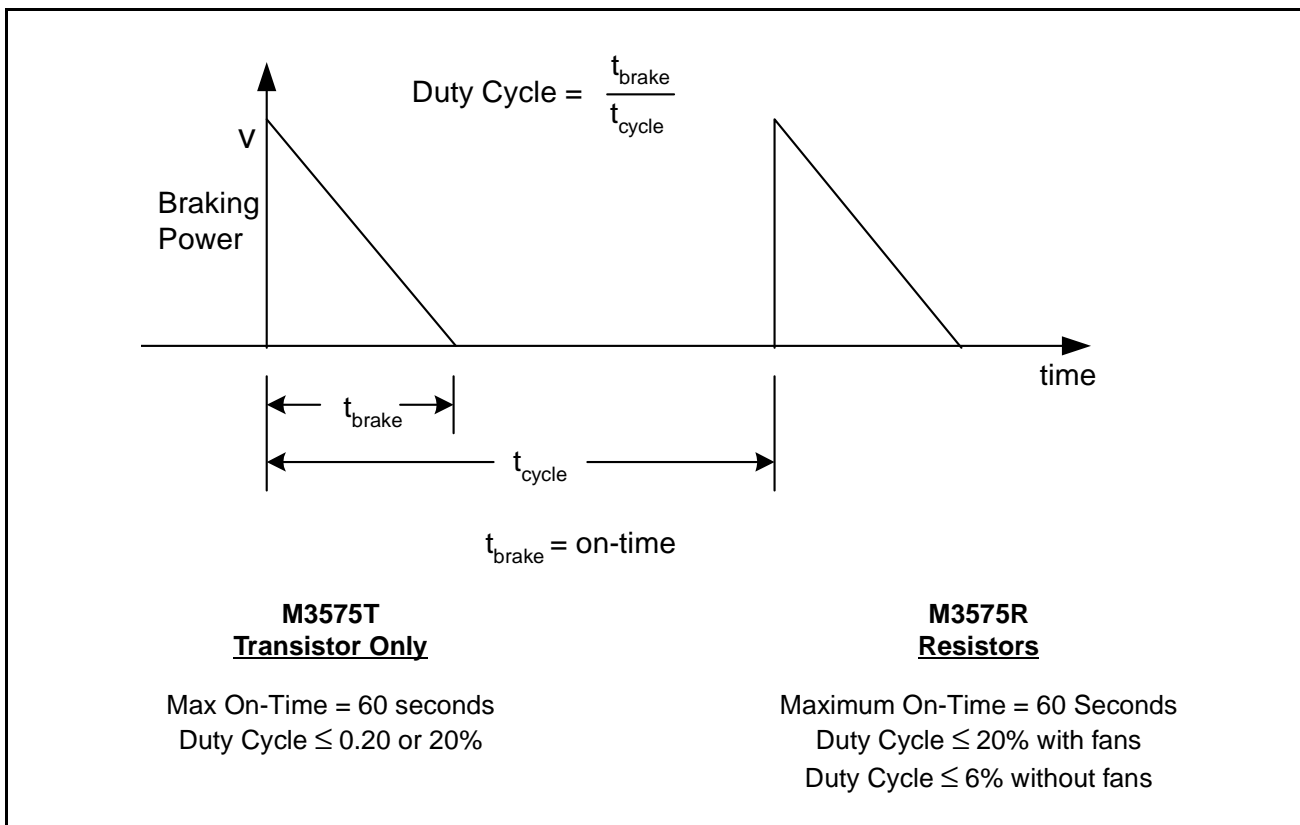

Figure 9 – Braking Unit Duty Cycles
Step 1. Calculate the regenerated power ( $P_{ave}$ ) from the load and the pattern of operation. See figure 9.